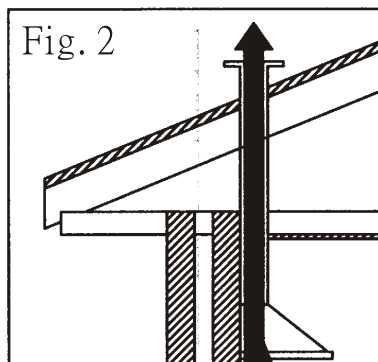
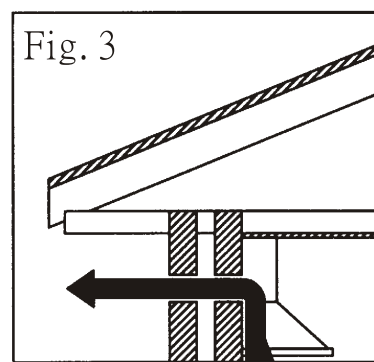

Fig. 2
Fig. 3
- A. This rangehood must be flued to external air space either through the roof (fig.2) or through the wall (fig.3)